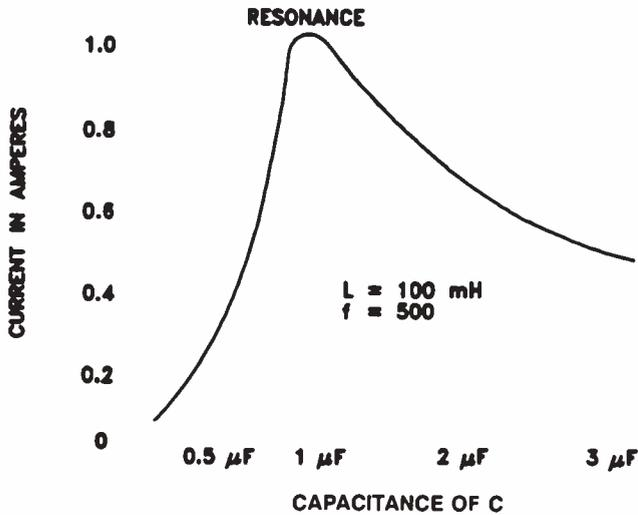

Figure 6. How current varies in a series resonant circuit when L is 100 mH, f is 500 Hz, and C is varied from 0 to 3 microfarads.
**Varying C.** Look at the circuit shown in Fig.5. At a frequency of approximately 500 Hz, the coil will have an inductive reactance of 314 ohms. If we start with zero capacitance in the circuit and begin increasing it in steps, the current varies as shown in Fig.6 on the next page.